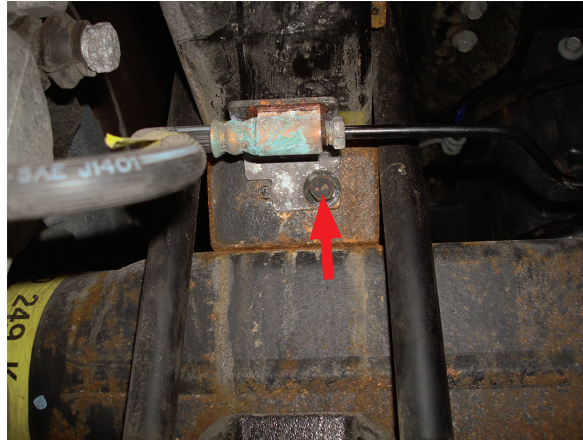

fig. 5
4. Remove the bolt from the brake line bracket that is attached to the spring perch (fig. 5).